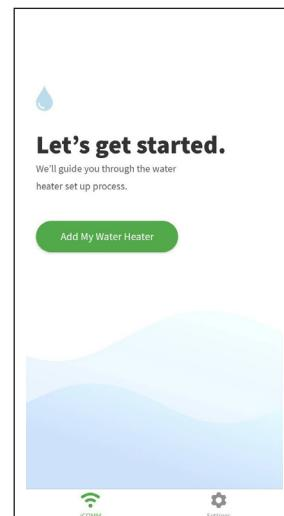

Figure 137 - Add My Water Heater
- 1** Select “Add My Water Heater” from the *Let’s Get Started* screen (Figure 137).